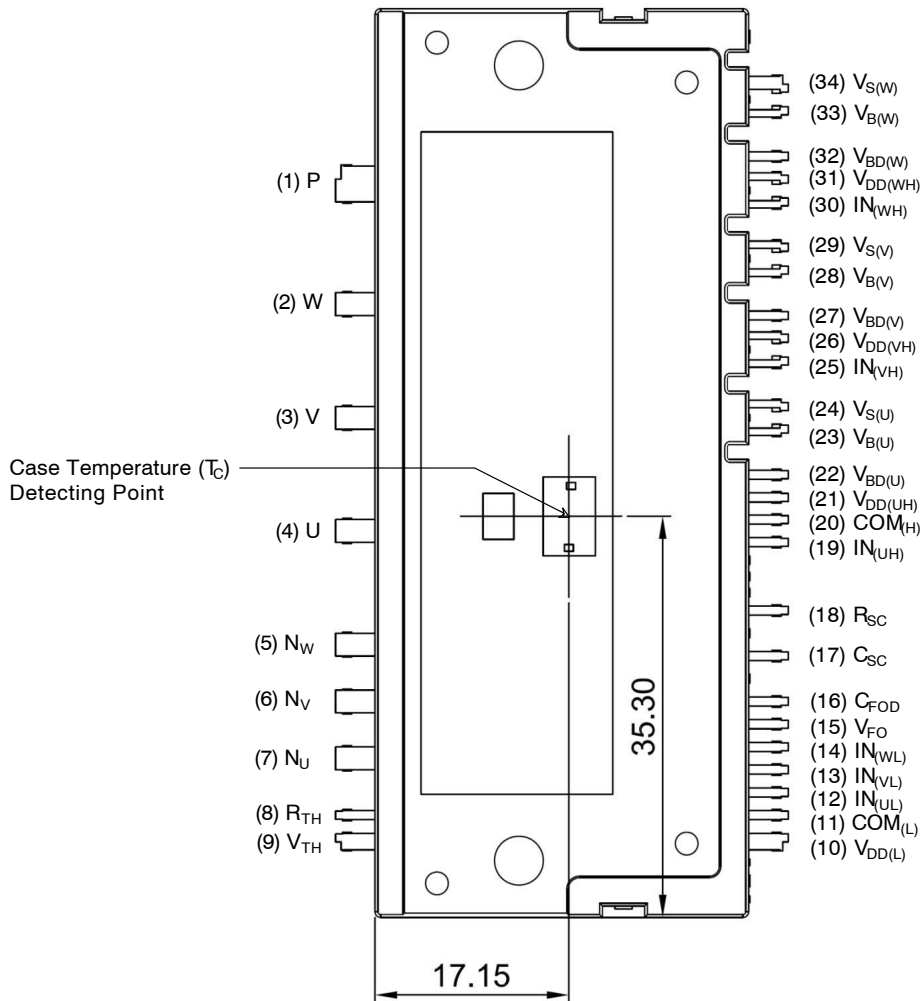

Figure 1. Top View
- 1200 V–35 A IGBT inverter for three–phase DC/AC power conversion (Refer to Figure 1)
- For the measurement point of case temperature ( $T_C$ ), please refer to Figure 1. DBC discoloration and Picker Circle Printing allowed, please refer to application note AN-9190 (Impact of DBC Oxidation on SPM® Module Performance).